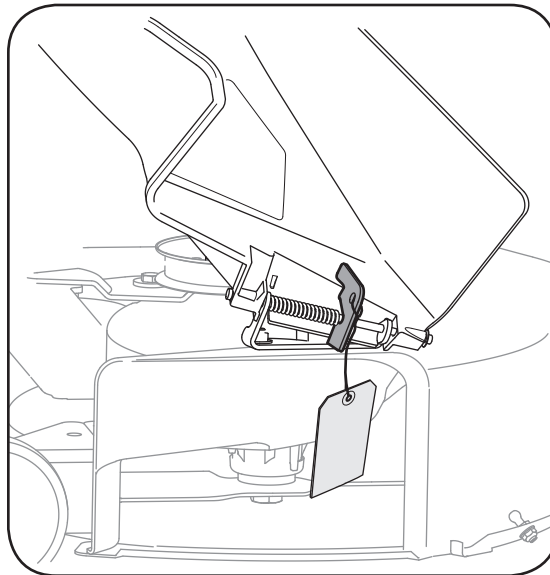

Figure 4
- Locate the shipping brace, if present, and accompanying warning tag found on the right side of the mower, between the discharge chute and the cutting deck. See Figure 4.